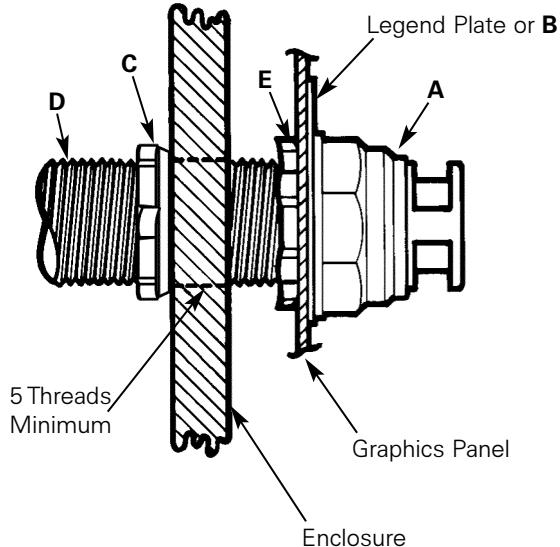

Figure 2
2. When installing assembly **D**, include lock nut **E** and front panel as shown in Figure 2.